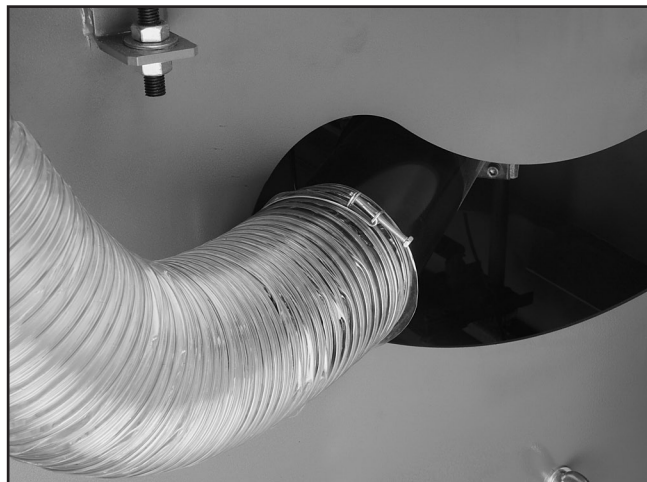

Figure 51. 5" dust port location.
1. Secure a 5" dust hose to the dust port located under the saw table (**Figure 51**).